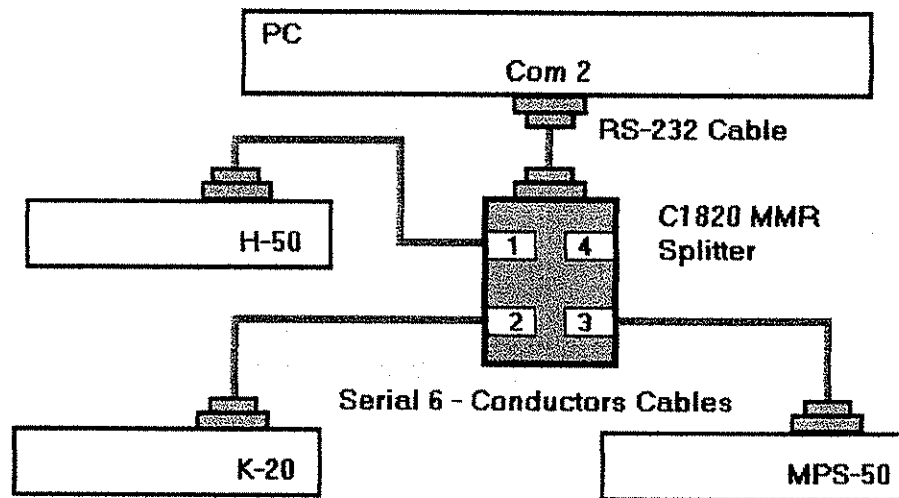

Fig. 2. Splitter Box Connections.
The second way to connect controllers to the computer is shown in Fig. 2.
Connect the RS-232 Input of the Splitter box to any available serial port using a standard serial communication cable. Then connect the controllers to the Splitter box as shown in Fig. 2. This configuration is mandatory, so you have to connect the H-50 to Port 1 of the Splitter box, the K-20 to Port 2 and MPS-50 to Port 3. To make these connections you have to use special 6-pin communication cables provided by MMR with the Splitter box. The Splitter box must be set to Mode 3. All controllers
- 6.6. If any errors have occurred then corresponding messages will be displayed. First make sure that your cable connections correspond to the settings in the Communication Setup window (See Section 7.4, "Communication Setup"). The message "Communication Error" means a hardware or configuration problem exists. Check if power to the controller is on; check if communication cables are connected properly; check, if the communication cables are connected to the correct COM ports; check if the Baud rate setting of the controllers is 4800 (refer to the Controllers' Manuals). If you use the IEEE-488, check the address settings. If you use the Splitter box, check if controllers are connected to the box exactly as shown in Fig. 2 and if Splitter Box was set to mode 3. If you get an error message that a certain COM port is unavailable, this indicates that there is hardware conflict in your computer, i.e. another system device has been configured to use this COM port. This could be a mouse, a modem, etc. To resolve this conflict, use a different COM port. Usually, this message will be accompanied with the corresponding Windows error message. Do not be alarmed, this kind of error does not cause any damage to other applications that are currently running.